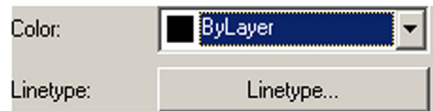

FIGURE 11.22
Step 2. Next you need to determine the *linetypes* and *colors* making up the lines of the overall mline. Both of these can be set in the Elements area using the Color: drop-down menu and the Linetype... button, as shown in Figure 11.22. Simply highlight the line element you wish to change and select a new color or linetype. Remember that you may not have the linetypes loaded yet, so you may need to do this (refer back to Chapter 3 for a reminder).